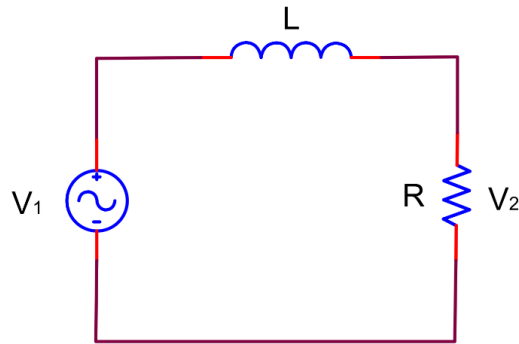

Figure 13.4
3. For the circuit in Figure 13.4: